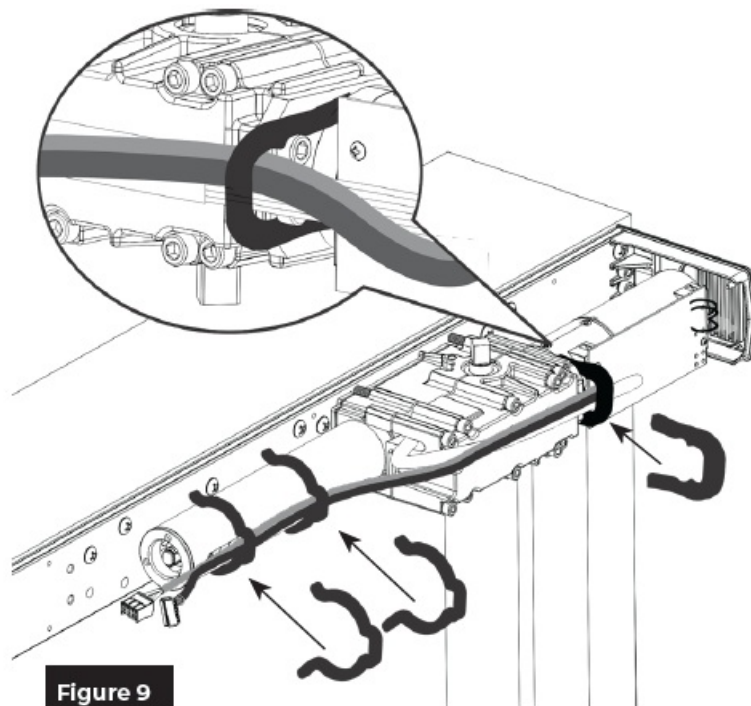

Figure 9
2. Using three (3) supplied cable management clips, secure cables along the closer body. (Figure 9)